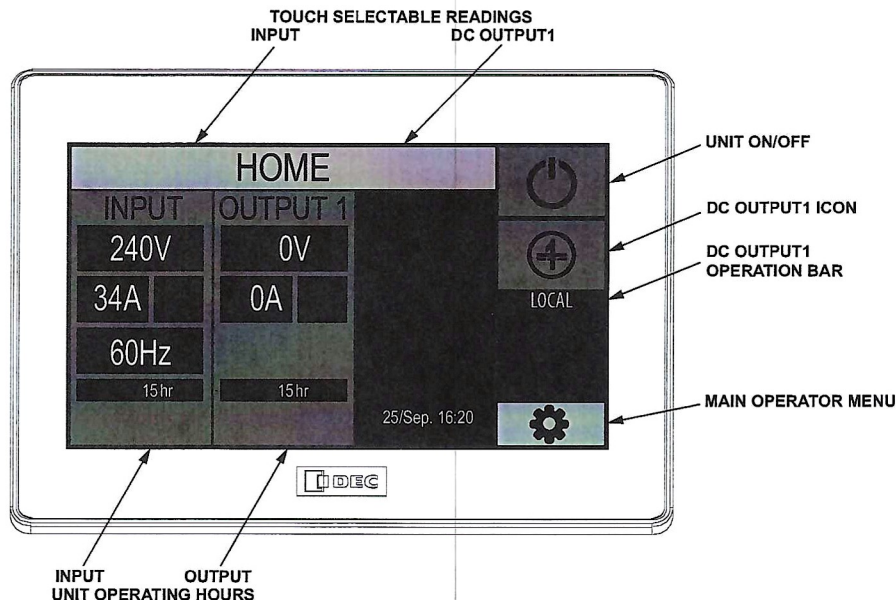

Figure 10. Operator Control Panel Home Screen - Unit OFF with Output OFF
Primary operator interface for navigating through unit operation menus and related buttons to select desired functions (*Figure 10*). Current menu name is displayed at the top of the screen.
6. To turn unit ON, press the Unit ON/OFF button. When the unit is ON, the HOME screen displays the input and output readings and the Unit ON/OFF button and input readings column will turn green. (*Figure 10*)